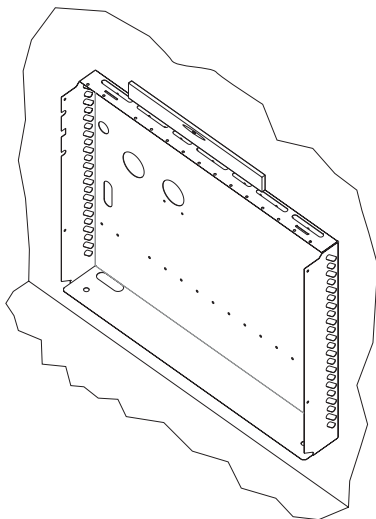

Figure 1
2. Locate the wall studs and move the wall mount shroud into position. Make sure that the flue and inlet pipe openings are not aligned with a wall stud. Make sure shroud is level. See **Figure 1**.